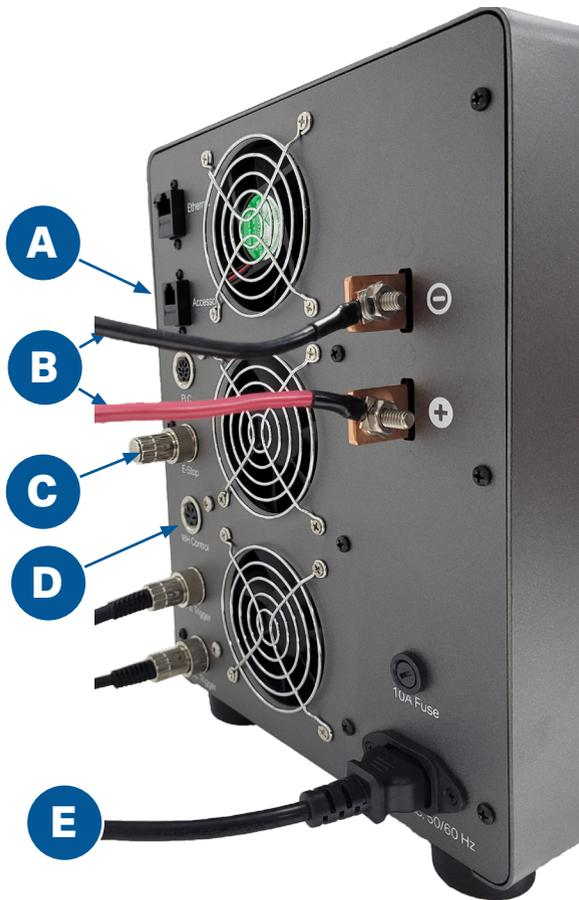

Figure 10.1. Unbox the Pico and make sure these basic connections are completed: Power (E), weld cables (B), E-Stop (C), and Accessory Port (A).
- Connect the E-Stop Bypass Plug or an E-Stop switch into the E-Stop Port on the back of the welder. See (C) in Figure 10.1.
- Connect the female end of the power cord into the Pico's Power Inlet and connect the male end into an AC power outlet (90-220VAC). See (E) in Figure 10.1.
- Connect the weld cables (B) from the weld head or hand attachment to the positive and negative weld terminals.
- If you are using the Sunstone Micro E weld head, attach one end of the CAT 5 cable to the Accessory Port (A) on the back of the Pico welder. Connect the other end of the cable to the Comm Port on the Sunstone Micro E weld head. See also the Micro E users guide.
- If you are NOT using the Sunstone Micro E weld head, connect the Weld Head Control cable to the Weld Head Control Port (D).